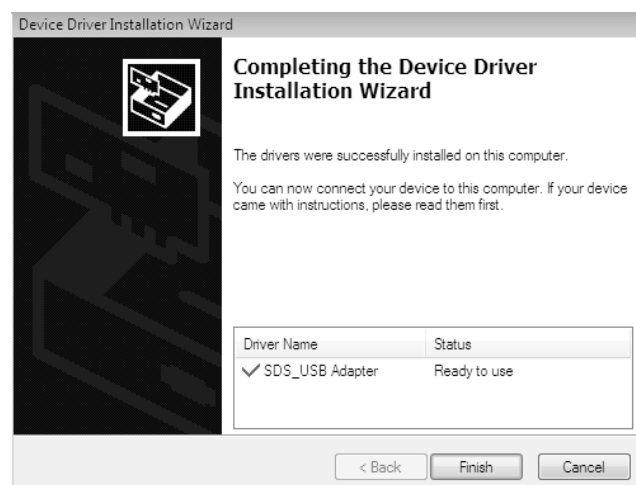

Fig.17
9. When the installation is correctly performed, the screen as shown in Fig.17 is displayed.